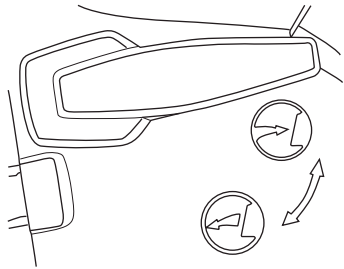

Fig. 11
1. Select the operating mode by moving the mode lever (5) to the respective symbol.
2. Move the lever (5) to the  position to use the product as a vacuum. (Fig. 11)